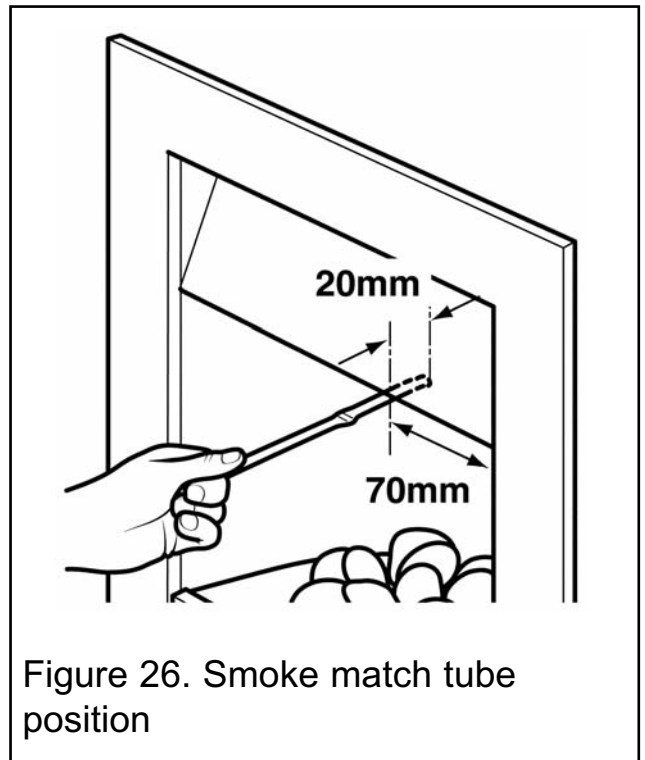

Figure 26. Smoke match tube position
4. The smoke match should be placed horizontally into the hotbox at the right hand side (See figure 26).